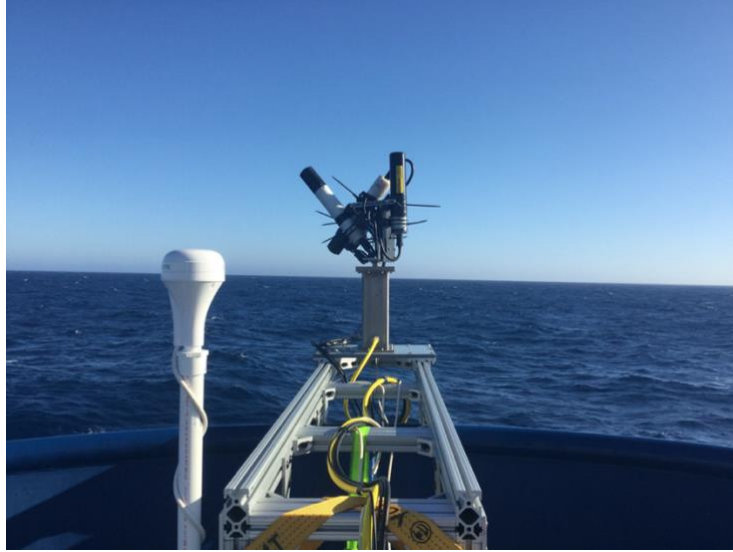

Figure 4. HyperSAS system mounted at the bow of R/V Roger Revelle.
1. A mounting frame (not provided) is required (e.g. Figure 4). An unobstructed view of the body of water of interest is needed avoid the ship's shadow and wake. The software allows you to bound the directions where such view is possible. The bow of the ship is usually the best place.